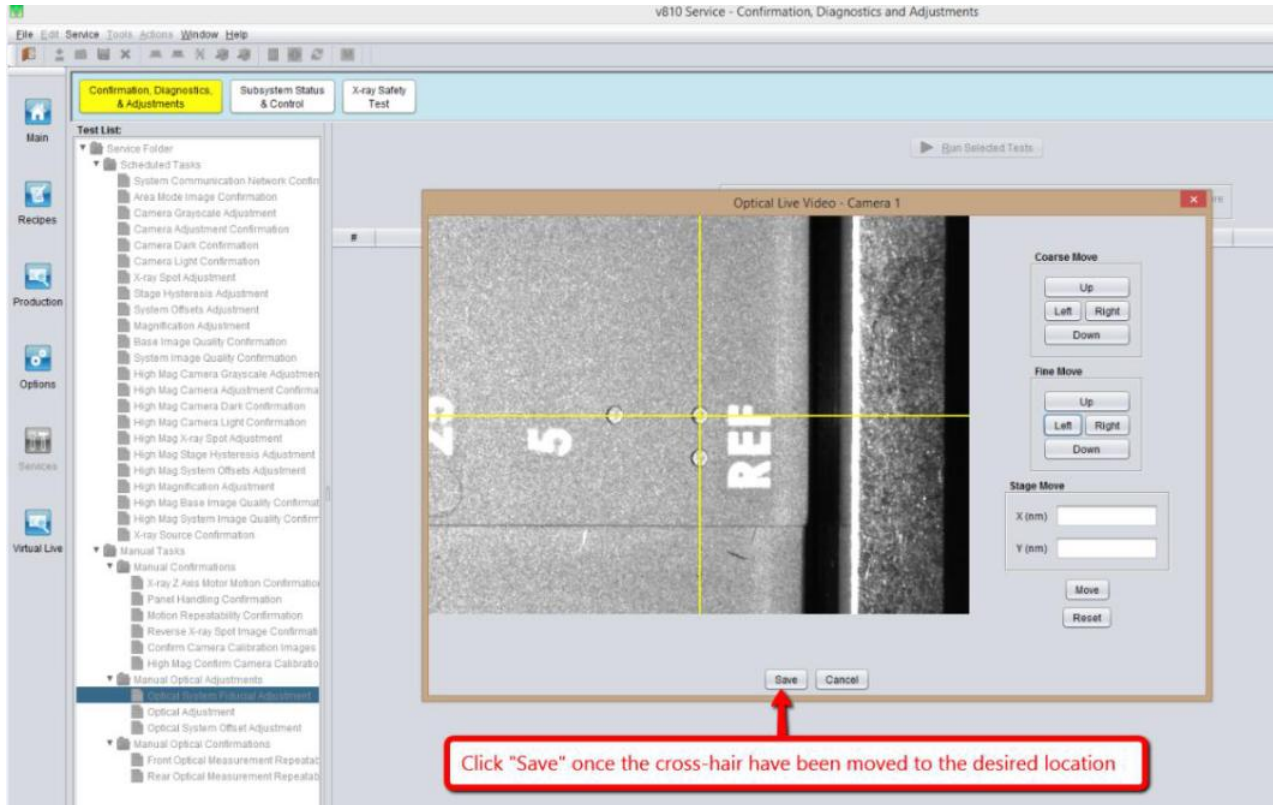

Figure 7 Front PSP Module Adjustment
10. Move cross-hair to particular location as Figure 7.